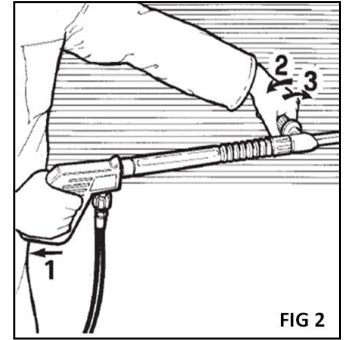

FIG 2
- d) Opening the variable nozzle or the low pressure on the dual lance (position 3, FIG 2), will activate the low pressure injector allowing automatic intake of the chemical.